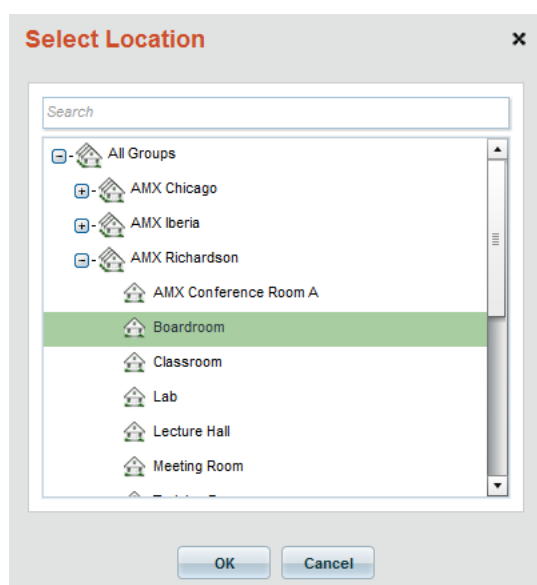

FIG. 74 Select Location dialog
2. This opens the *Select Location* dialog (FIG. 74):